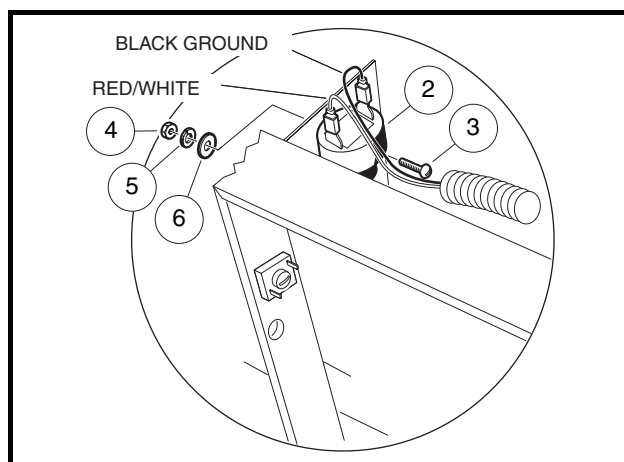

Figure 12-22 Front Reverse Warning Buzzer
5. Disconnect the wires from the reverse warning buzzer (2) (**Figure 12-22, Page 12-19**).
6. Remove the screw (3), nut (4), lockwasher (5) and flat washer (6) securing the front buzzer to the vertical frame support.
1. Install the screw (3) through the buzzer (2) bracket tab and frame for front and/or rear warning buzzer, secure with hardware, and tighten to 14 in-lb (1.6 N·m) (**Figure 12-22, Page 12-19**). **See following NOTE.**